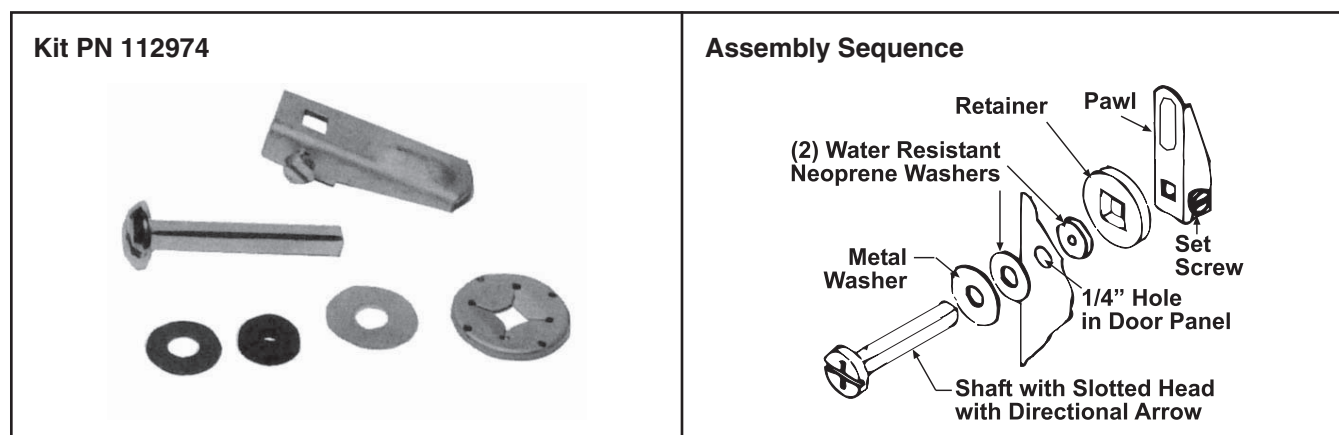

Figure 21. Replacement Door Latch Kit
- Replacement door latch kit components are shown in Figure 21.